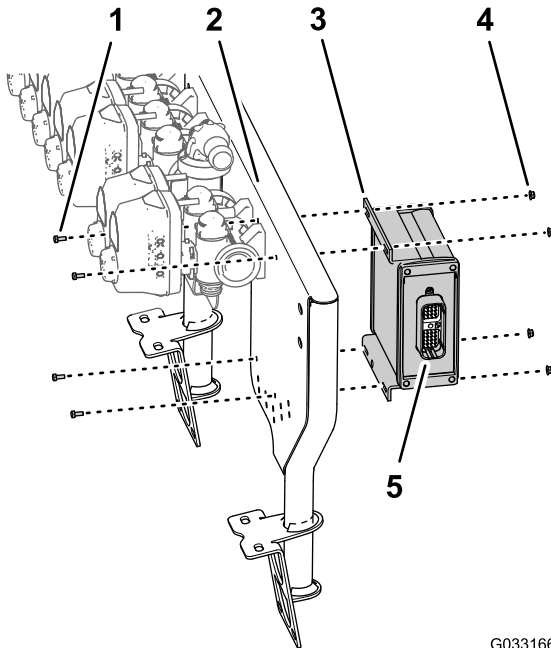

Figure 86
1. Align the sprayer controller the forward side of the valve mount with the 40-pin connector outward (Figure 86).
2. Assemble the sprayer controller to the valve mount (Figure 86) with the 4 bolts (4 x 10 mm) and 4 flange locknuts (4 mm).